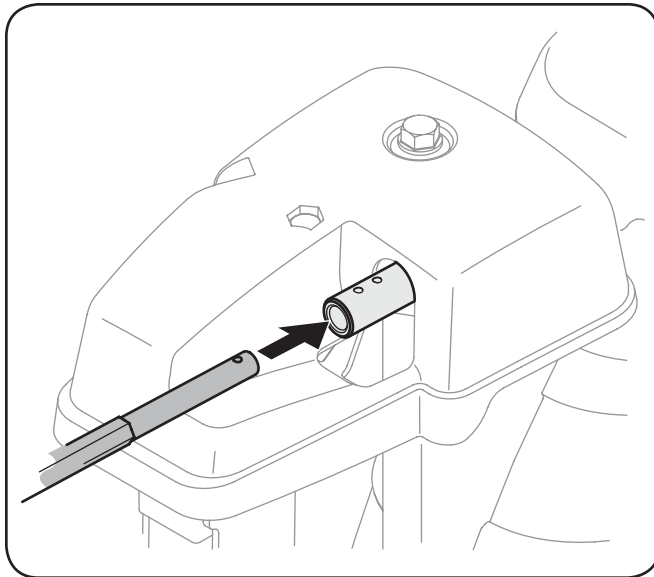

Fig. 3-4
2. Insert round end of the hex rod (hole pointing upward) as far as possible into chute control assembly. See Fig. 3-4.